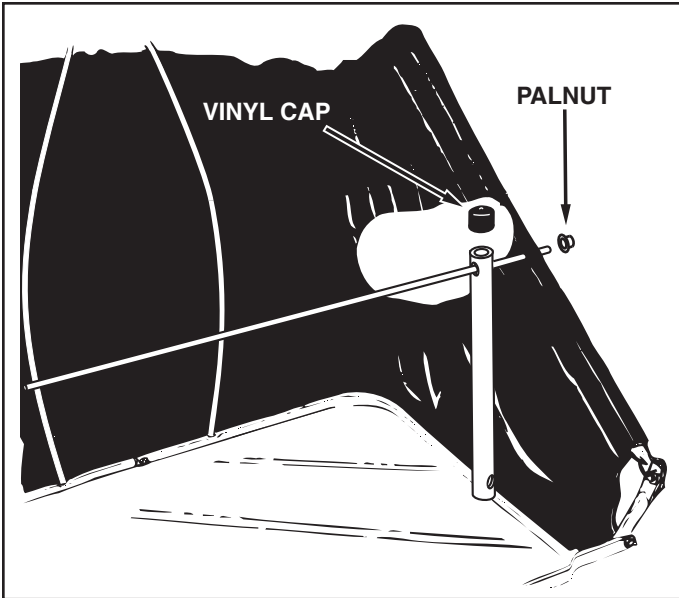

FIGURE 19
- Assemble two palnuts onto the ends of the pivot rod by lightly tapping them with a hammer. See figure 19.
- Place a vinyl cap onto each bag arm tube. See figure 19.